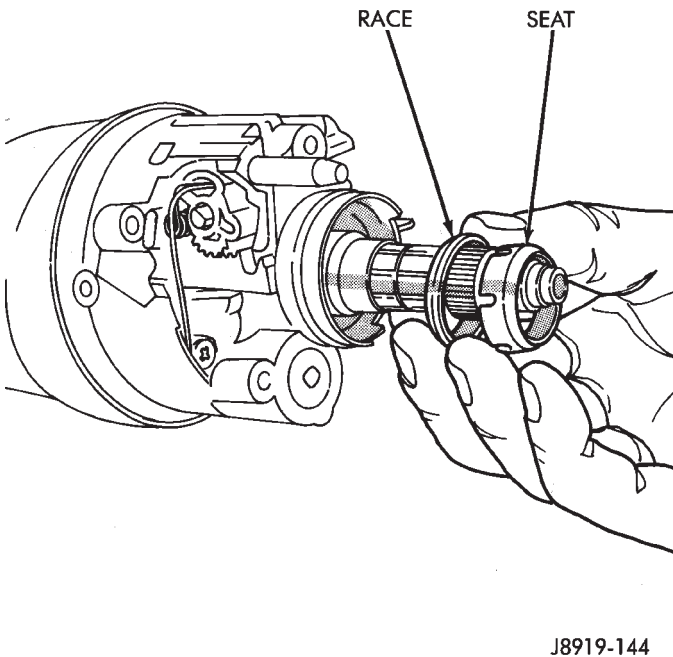

Fig. 8 Steering Shaft Bearing Race & Seat
(23) Remove the screws that attach the key/lock cylinder housing cover to the steering column jacket. Remove the cover.
(24) Remove the upper bearing race and the bearing seat from the steering shaft (Fig. 8).
(25) Install the tilt-release lever and place the steering column in the full upward tilt position.